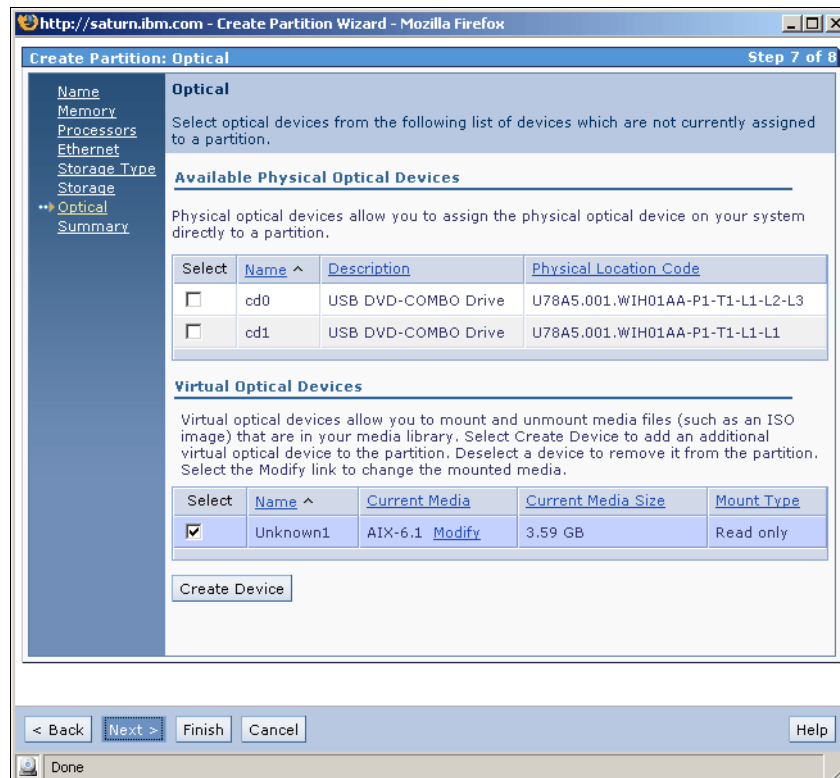

Figure 6-24 Create partition - virtual optical device
13. Click **Next** to see an overview of the setting of the new partition. See Figure 6-24.